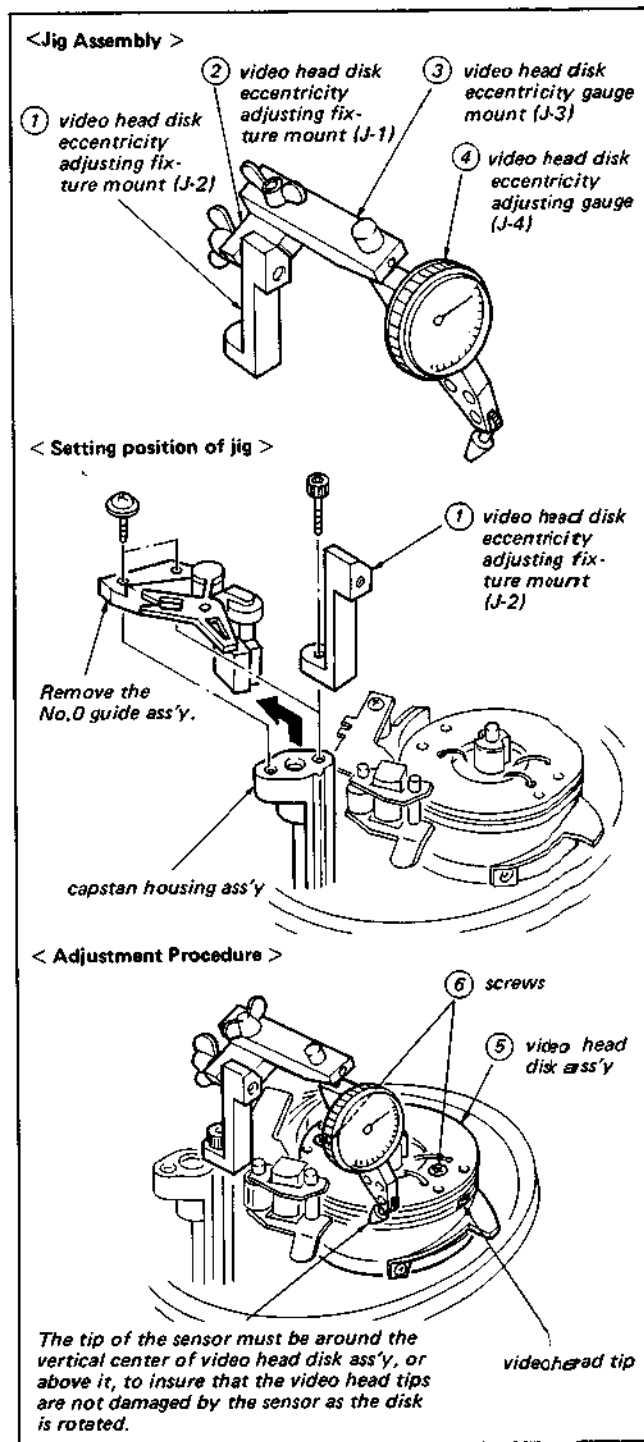

Fig. 3-2. Eccentricity adjustment of the video head disk assembly
- (i) Combine adjusting fixture parts ①, ②, ③, and ④ as shown in Fig. 3-2. Set the combined fixture on the machine by mounting the eccentricity gauge assembly in the capstan housing assembly. See Fig. 3-2.